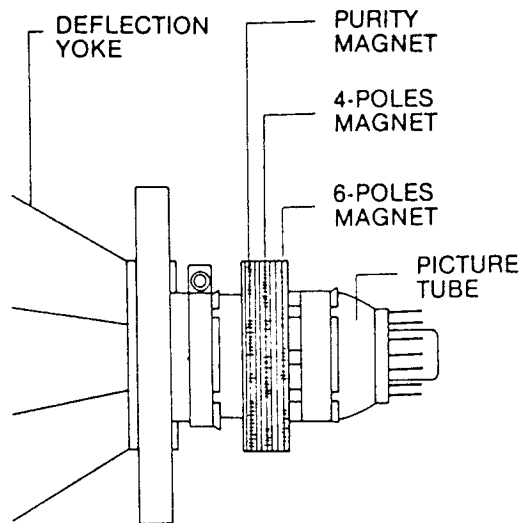

FIGURE 3.
- a) Check to see that the spacing between the static magnet and stem top conforms to the illustration in Fig. 3.